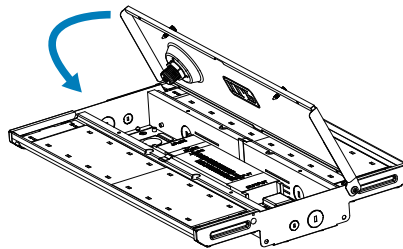

Figure 18
- Ensure the narrow distribution optics are aligned end to end and securely attached (Figure 18).